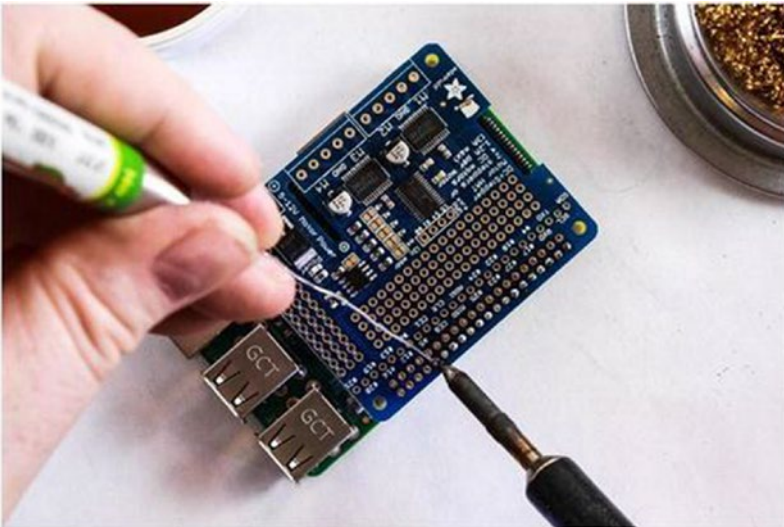

Figure 6-9. *Solder the first row of pins*
5. Solder the rest of the first row (see Figure 6-9). You want a nice, clean, shiny joint.